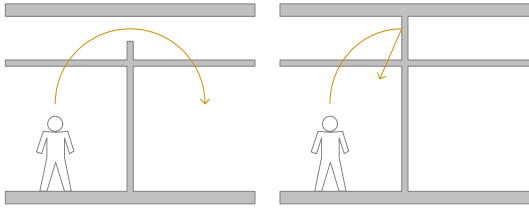

Figure 3. Sound transmission through the ceiling plenum
- **Extend partition walls to the structural ceiling.** Otherwise, sound can travel over the partition into the next room (Figure 3).